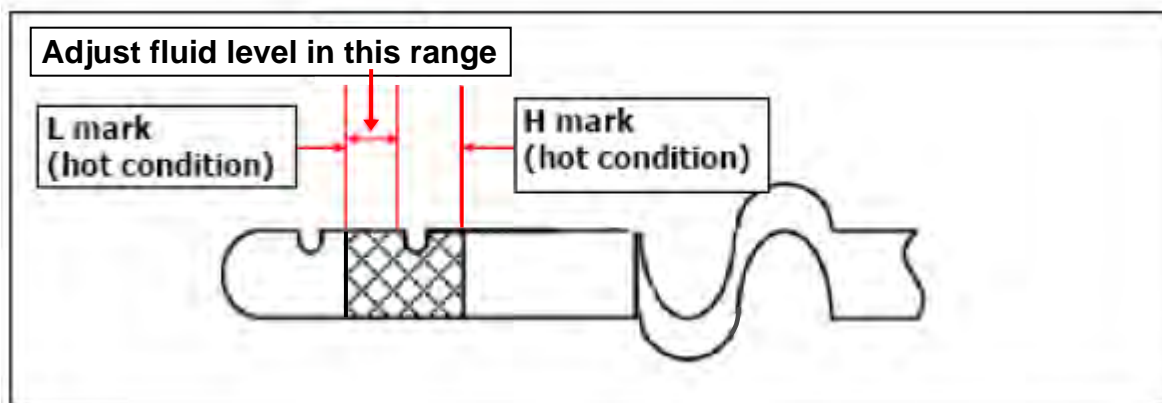

Figure 1
- f. Adjust the CVT fluid level between the marks shown in Figure 1.